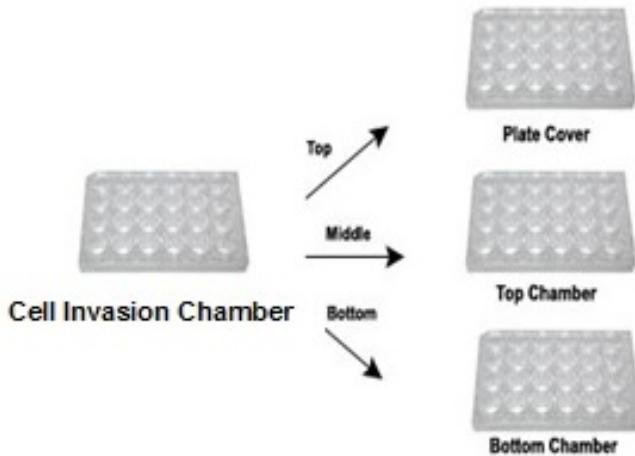

Figure 1. Cell Invasion plate: The cells are added to the Top Chamber and the Control Invasion Inducer or chemoattractant are added to the Bottom Chamber.
6. Under sterile conditions, disassemble the Cell Migration Chamber (12 x 3 μ m)/Cell Migration Chamber (Figure 1) and carefully remove the plate cover and the top chamber.